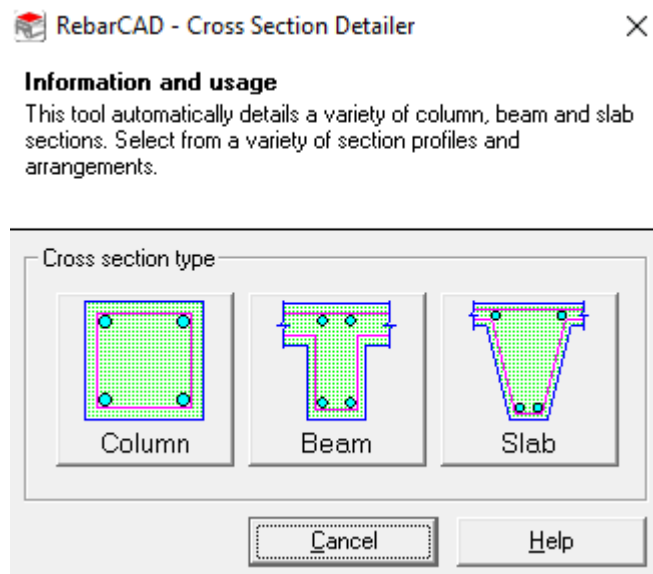

Figure 12.2.5:1 Cross Section Detailer dialog
- ▶ Select the Column Icon from the Cross Section Detailer dialog as shown in figure 12.2.5:1 below.